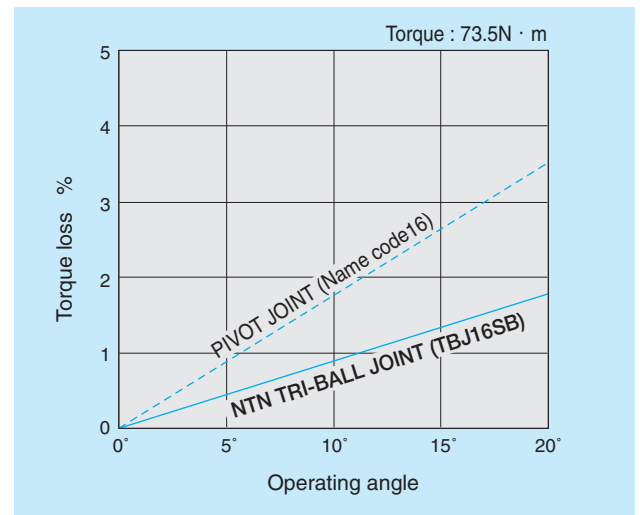

Fig. 1 Transmission efficiency of TRI-BALL JOINT
- Smooth and highly efficient performance by transmitting power through balls (Fig. 1).